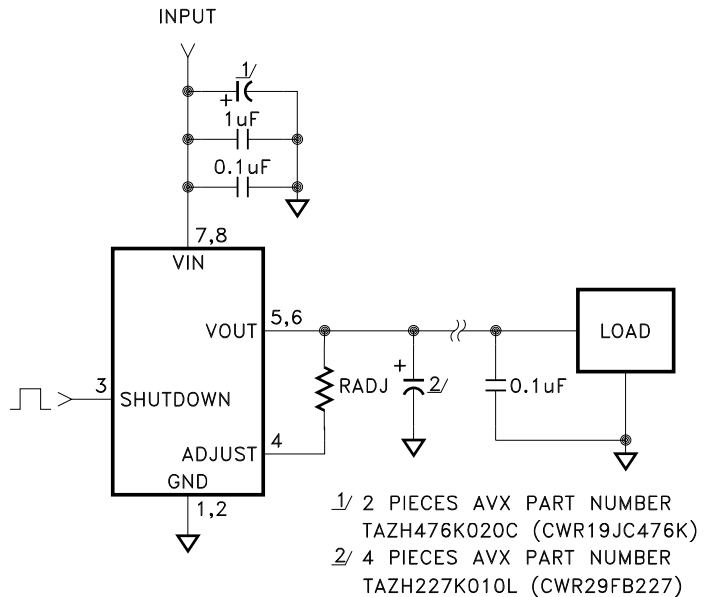

FIGURE 2
- ① Unless otherwise specified, VIN = 5.0V, VSHUTDOWN = 0V and IOUT = 50mA. See figure 2 for typical test circuit.
- ② Guaranteed by design but not tested. Typical parameters are representative of actual device performance but are for reference only.
- ③ Industrial grade devices shall be tested to subgroups 1 and 4 unless otherwise requested.
- ④ Military grade devices ("H" and "K" suffix) shall be 100% tested to subgroups 1,2,3 and 4.
- ⑤ Dropout limited by minimum value of VIN.
- ⑥ Subgroup 1,4 TC = +25°C